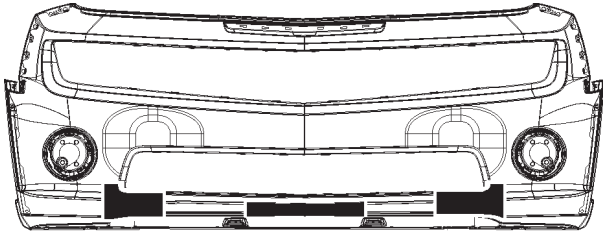

FIGURE 45
26. Check the scale and cut out the templates found on the last page of these instructions. Position the template as indicated to locate the fixing hole positions on the back face of the fascia. Use a sharp pointed tool to mark the center of the hole on the fascia and remove the templates. Refer to figure 45.